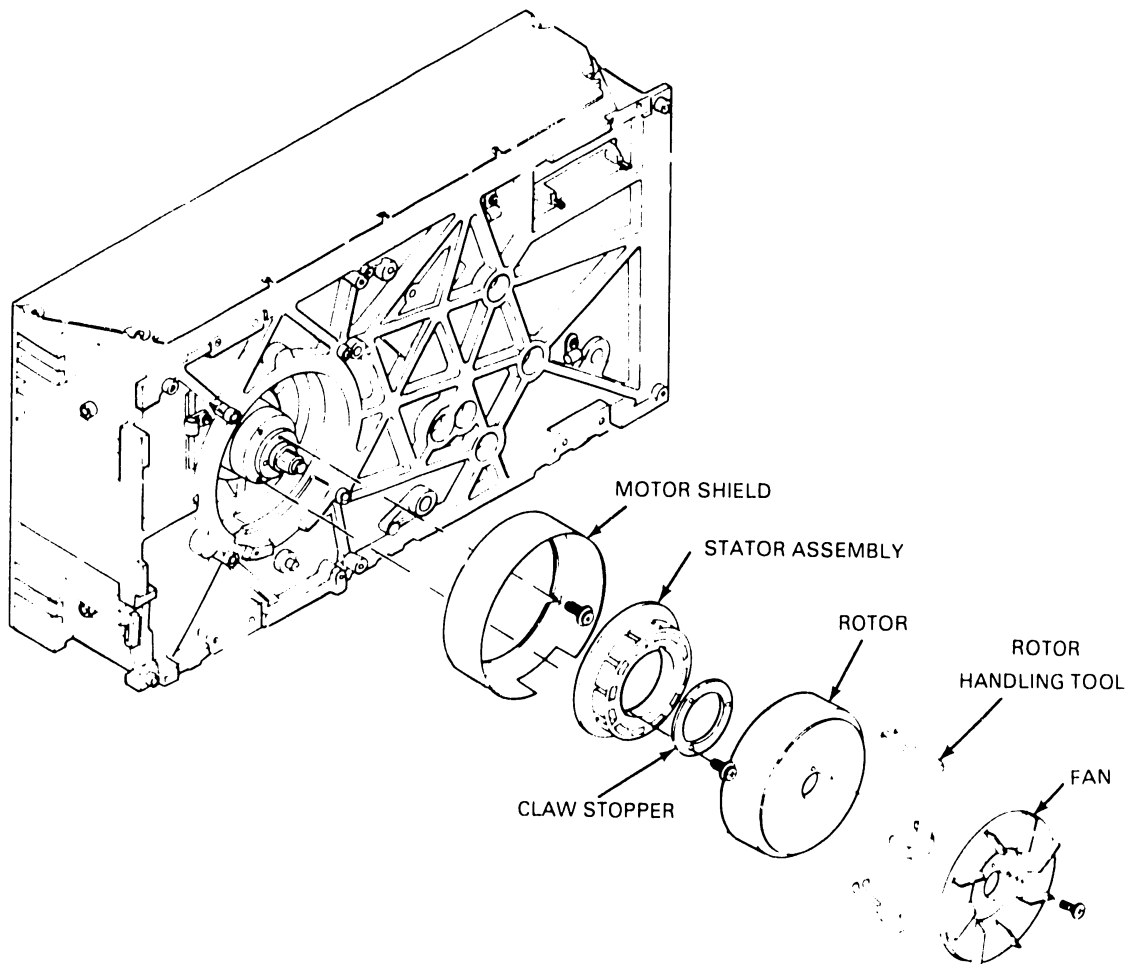

Figure 4-7 D2246 Stator Assembly
7. Remove the rotor using the special rotor handling tool (see Figure 4-7).
8. Loosen the three screws that secure the claw stopper (see Figure 4-7) and remove the claw stopper.